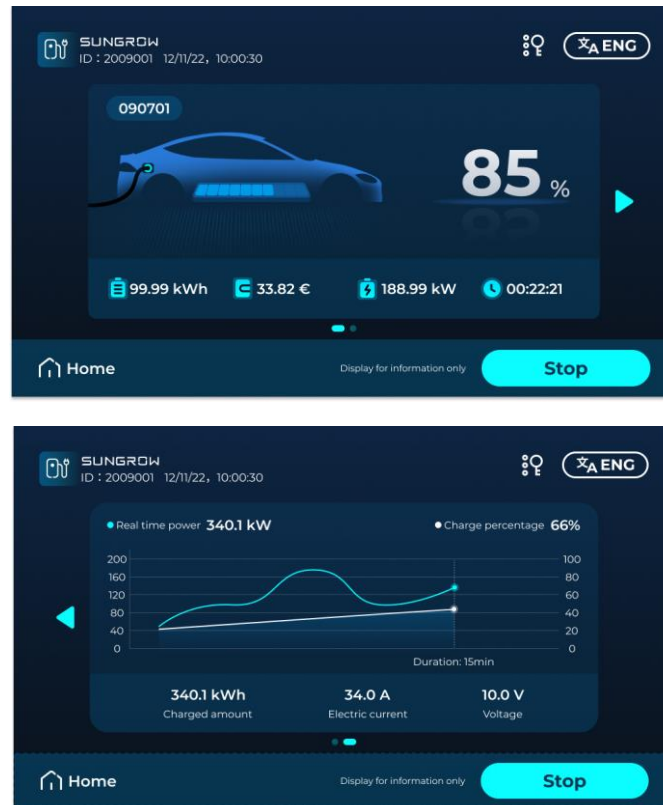

Fig.2-21 Interfaces of normal charging
6. After completing the preparatory stage, the system transitions to the normal charging interface. Tap  and  on the screen or slide the screen to switch information display, as shown in Fig.2-21;